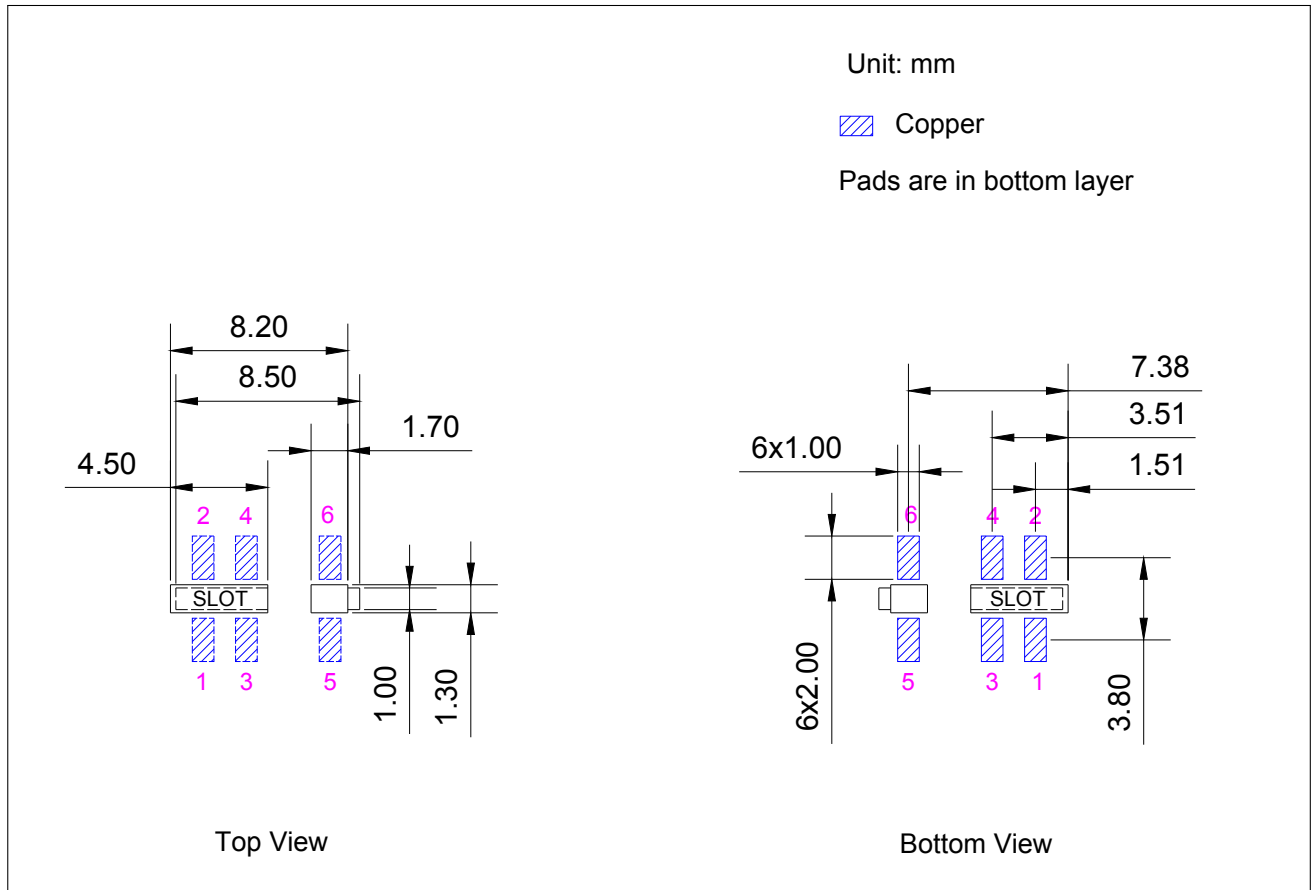

Figure 7: Recommended PCB Land Pattern
- Figure for the recommended PCB land pattern with all the dimensions needed for PCB design. See Figure 7 *Recommended PCB Land Pattern*.
- Source file of the recommended PCB land pattern to measure dimensions not covered in Figure 7. You can view the source files for ESP8685-WROOM-07 with Autodesk Viewer.